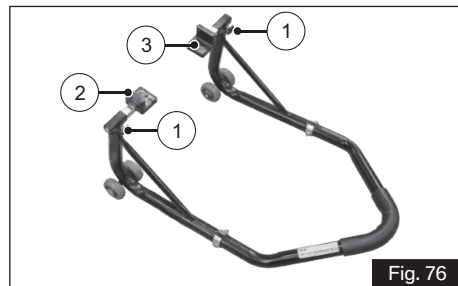

Fig. 76
- ♦ Loosen the clamping screws (1) of the stand adopters.
- ♦ Move away the adopters (2 & 3) in such way that the swing arm fits between them (ref. Fig. 76).